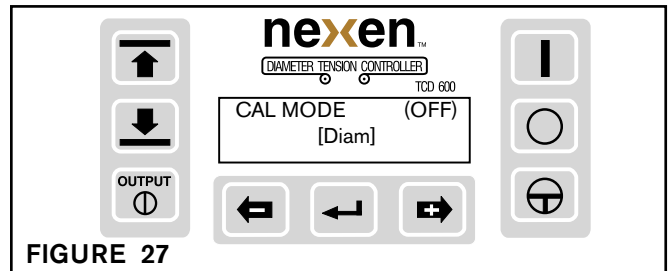

FIGURE 27
2. Diam will appear in the display (See Figure 27). Press Enter.